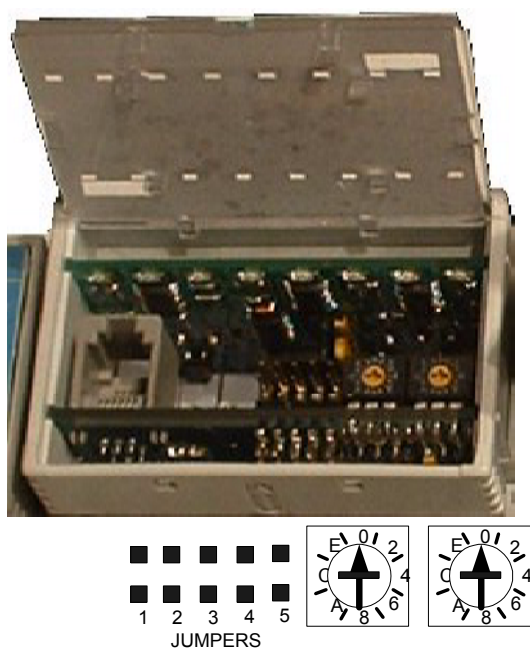

Figure 1 – Processor cassette.
- 4.2.6. Figure 1 above shows a unit has the address '00' (do not forget that this is set in hexadecimal). To set to address '01', use a small screwdriver and turn the right hand side rotary switch to '1'. Power down the unit, when powered up the unit will adopt address '01'.
- 4.3.1. Figure 1 also shows 5 jumpers, jumpers 1 to 3 select the Baud rate (between 600 and 76k8). Do not interfere with the other jumpers or incorrect operation may result.
- 4.4.1. Referring to Figure 1, there is an RS232 RJ11 socket which is used to configure the unit. It is designed for use with a computer running our 'FDT625' configuration software. A suitable 9 way 'D' to RJ11 plug lead is available from Field. In the absence of such a lead, the computer's RS232 port may be connected to the RS485 port, *provided that 4-wire RS485 is selected* (See above). On the 9 way connector pins 2, 3 & 5 are used. Connect the RX of the computer to the TX of the unit and the TX of the computer to the RX of the unit. Connect pin 5 to the 'COM' terminal.